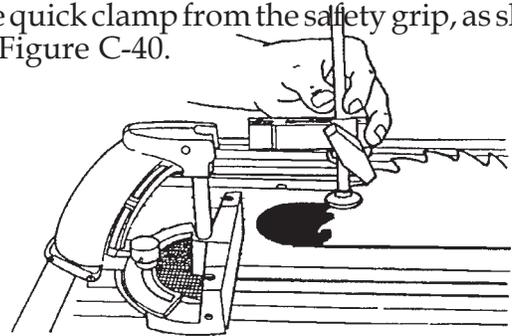

Figure C-40
- 40. Place the miter gauge in the right miter gauge slot, and use a 5/32" Allen wrench to remove the quick clamp from the safety grip, as shown in Figure C-40.